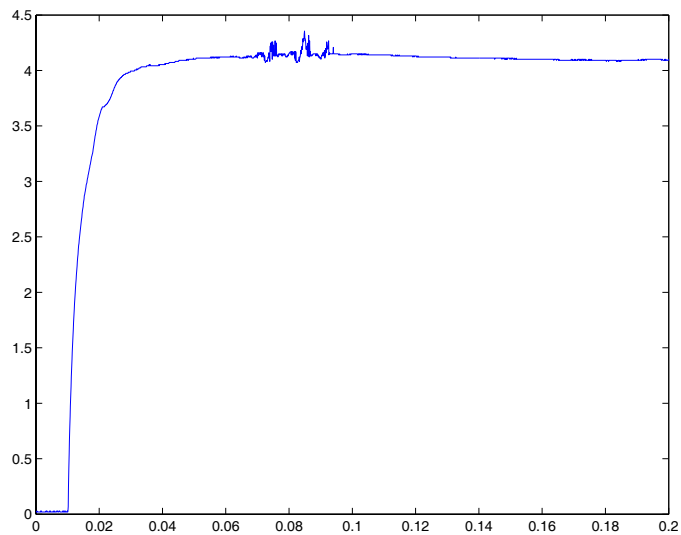

Figure 4.6: Current Waveform
- Set the V_MOTOR to a low value (around 3 V) and uncheck Reset to give a step in voltage and then recheck Reset. The current should increase exponentially (as shown in Fig. 4.6) and reach a constant steady state value.
- Check and uncheck SD and Reset to make some measurements. Your current waveform will look some what similar to the one shown in Fig. 4.6. After you are satisfied with the data displayed go to the Capture Settings Window and press the SAVE button. The dialog box will ask you to name the .mat file that will contain the graphic data in all plot areas.